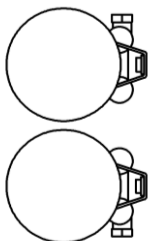

FIGURE 3A
10. Remove crossover pipe assembly from box and slide the (2) supplied 27-61MSC clamps over the expanded inlets. Refer to Figure 3A for clamp alignment.
17. To install the right rear heatshield, first slide the rear portion of the heatshield over the muffler, continue to slowly slide it forward pushing the front of the shield gently into place between the frame and motor. Make sure the muffler clamps don't interfere with the heatshields and are aligned as shown in Figure 3A. Snug the heatshield clamps but **do not tighten**.